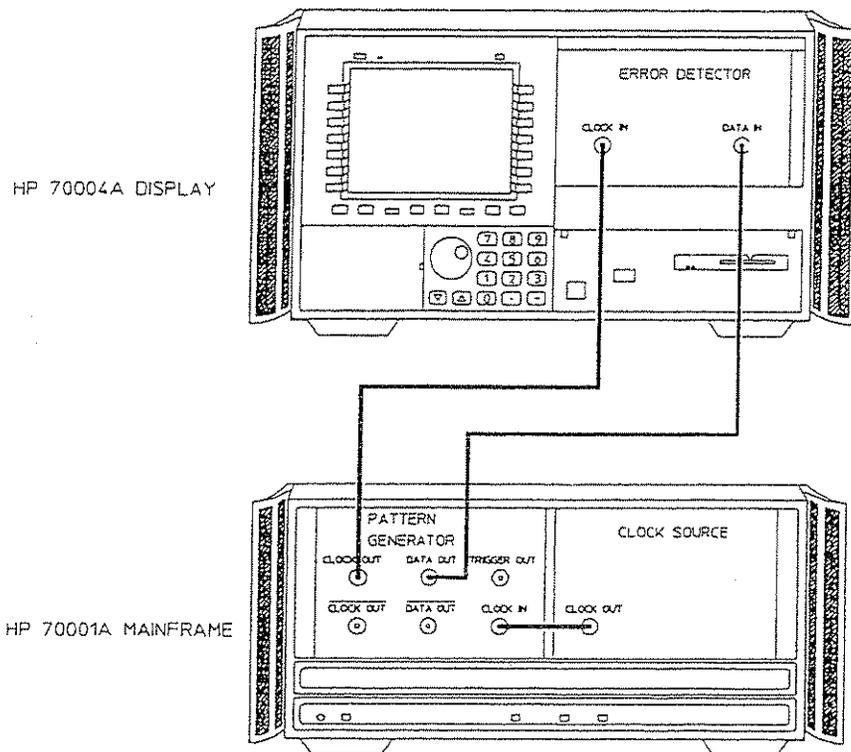

Figure 2-5. System Back-to-Back Connection
2. Connect the pattern generator **DATA OUT** and **CLOCK OUT** ports to the error detector **DATA IN** and **CLOCK IN** ports respectively. Terminate any unused ports with 50 ohm terminations (HP part number 1250-2153). See figure 2-5. Ensure the HP 70001A mainframe and HP 70004A display rear-panel HP-MSIB ports are connected. Information on HP-MSIB cabling is given in the HP 71600B Series Installation and Verification manual.